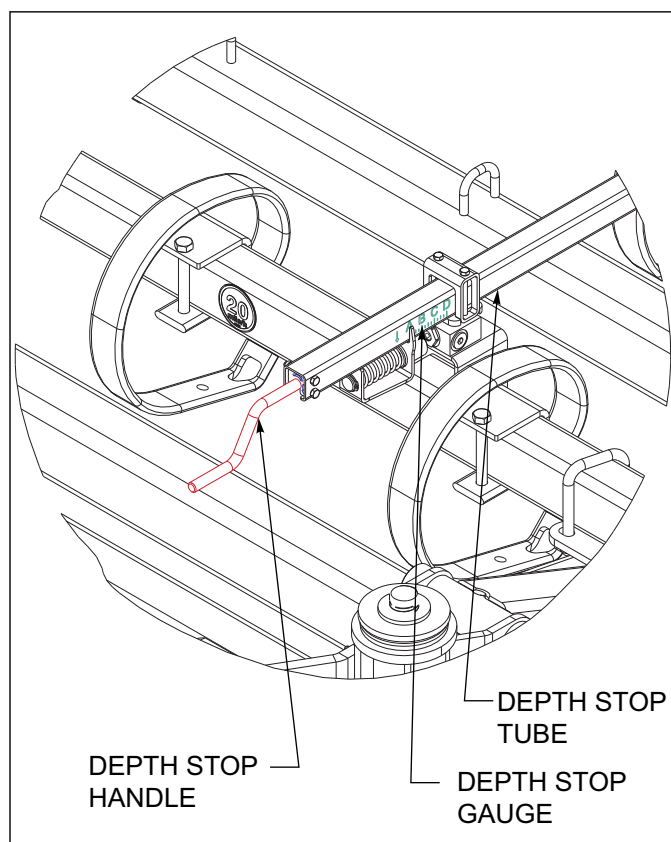

Figure 4-8: Depth Stop Adjustment
1. The operating depth of the Field Cultivator is controlled by a single-point depth stop. The stop is located at the center front of the machine **See Figure 4-8.**